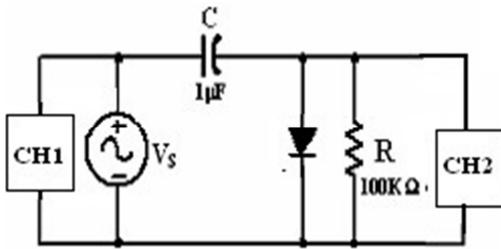

Figure 13
- 1- Construct the circuit shown in Figure 13, where the supply V_s is sinusoidal signal with **8Vpp, 100Hz**